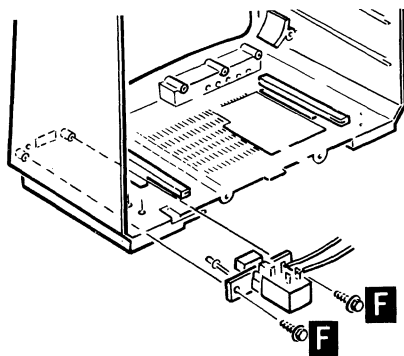

Figure 2.6
11. Refer to Figure 2.6 and remove the two 8-18 x .437" screws at F. Remove and replace the 120-volt power switch with a 220-volt power switch (part number 85-1646). Replace the two screws at F.